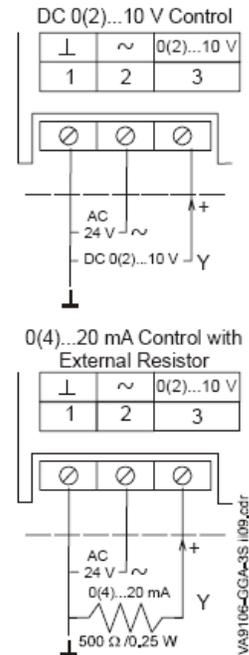

Figure 8: VA9104-GGA-3S control wiring diagram
The VA9104-GGA-3S Series Electric Non-Spring Return Valve Actuators require AC 24 V power and a DC 0(2) to 10 V or 0(4) to 20 mA controller input signal. These electric actuators include M3 screw terminals that require a slotted screwdriver. See Figure 8 for proper wiring.